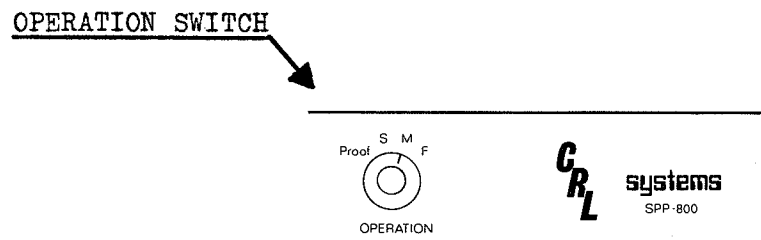

FIGURE 3-1 OPERATION SWITCH
3.1.1 Operation Switch (Figure 3-1)